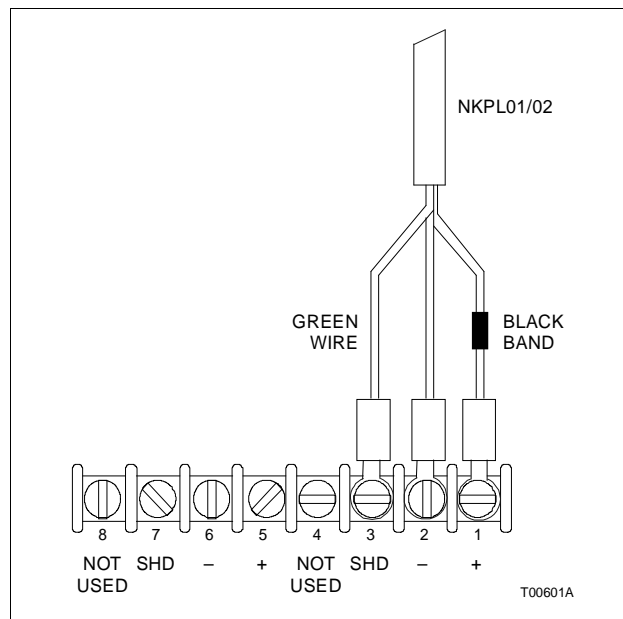

Figure 2-5. NKPL01/02 Lead Assignments
2. If using twinaxial cable, connect the cable to the termination unit at the terminal blocks, TB1 or TB2. Figure 2-1 shows the terminal assignments as they are marked on the circuit board. Figure 2-5 shows the lead assignments of the NKPL01/02 cable.